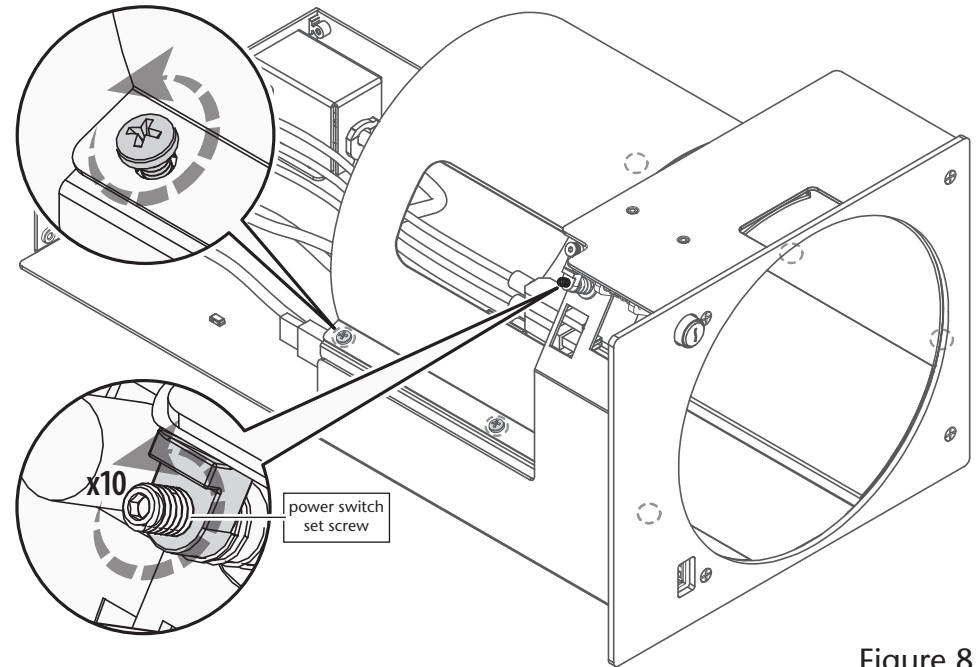

Figure 8
1. Using a Phillips screwdriver, loosen, but do not remove, the six screws securing the computer mounting module's top bracket to its bottom bracket (Figure 8).
2. Using the included 5/64-inch hex wrench, back out the computer mounting module's power switch set screw by turning the screw counter-clockwise 10 complete turns (Figure 8).